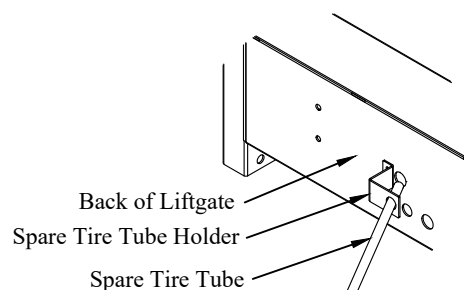

Figure 10: Spare tire tube holder.
3. **Position** the spare tire tube holder on the spare tire tube (Figure 10).
5. **Position** the spare tire tube holder against the liftgate (Figure 10).